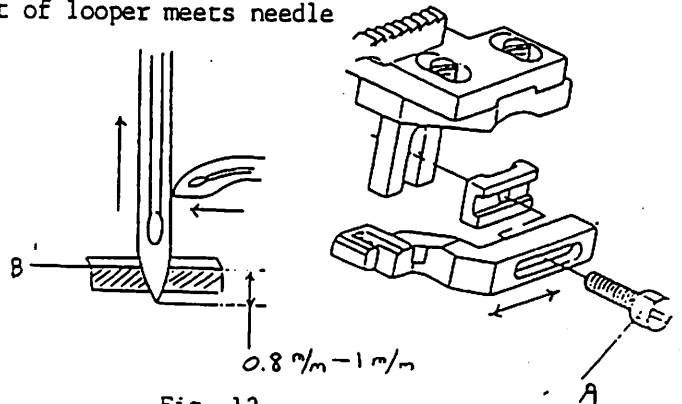

Fig. 12
13) Setting needle guard (Fig. 12)